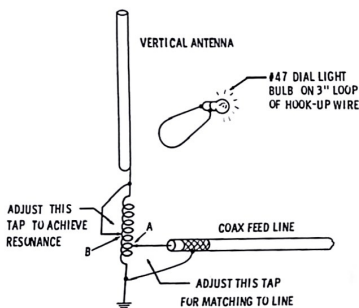

Fig. 2-14. Matching method for improved SWR.
Fig. 2-14 shows the circuit; note that the coil is connected between the antenna and ground, and the length of the coil is adjustable. The feeder line is tapped onto the coil at a point which gives a match for 52 ohms, the coil, in effect, serving as a tapped matching transformer, as well as a loading coil. Note the steps:
1. With a pick-up loop made of a loop of wire and a dial lamp fastened to a stick (Fig. 2-14), couple the coax between the base loading coil and the 33-foot counterpoise leg. With the transmitter set to the desired frequency, simply adjust the length of the loading coil for maximum output as indicated on the pickup loop. (Turn the transmitter off each time there is an adjustment to make.)